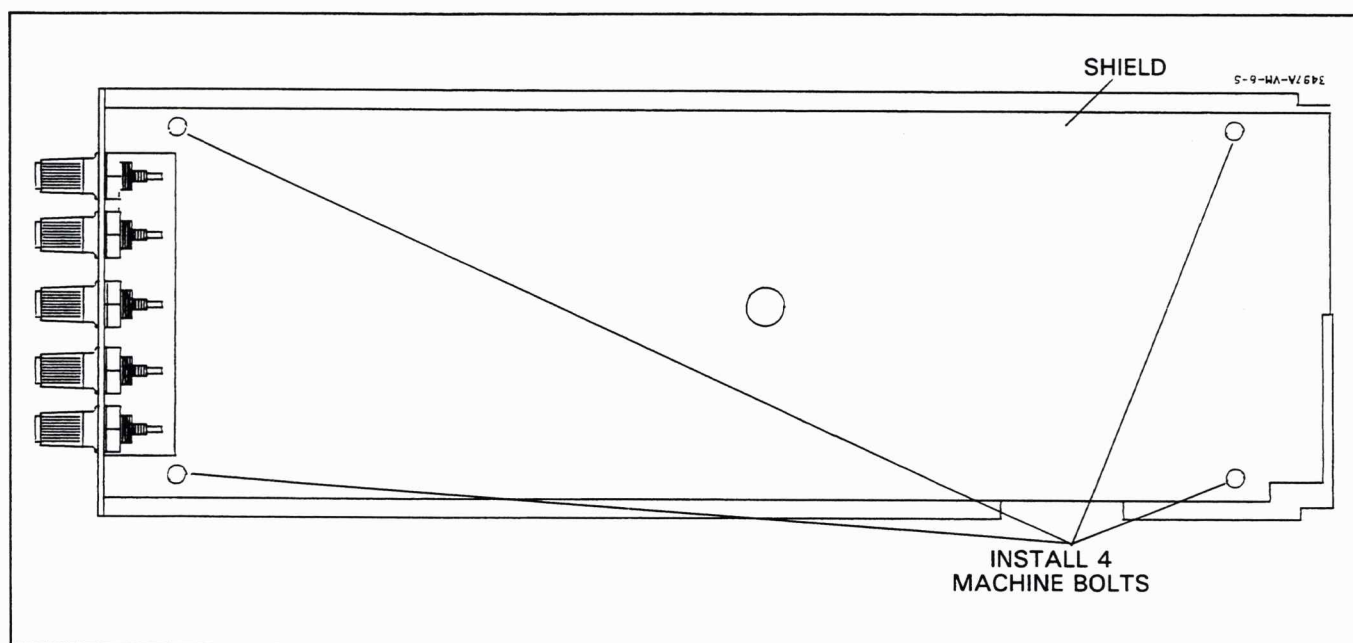

Figure 2-8. Voltmeter Installation
- f. Place the metal shield in position over the voltmeter board and secure it with four machine bolts (-hp- Part No: 0515-0212), as shown in Figure 2-8.